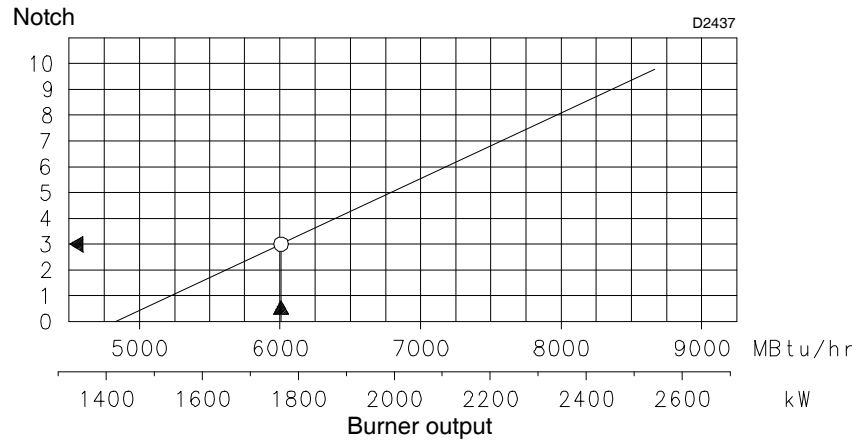
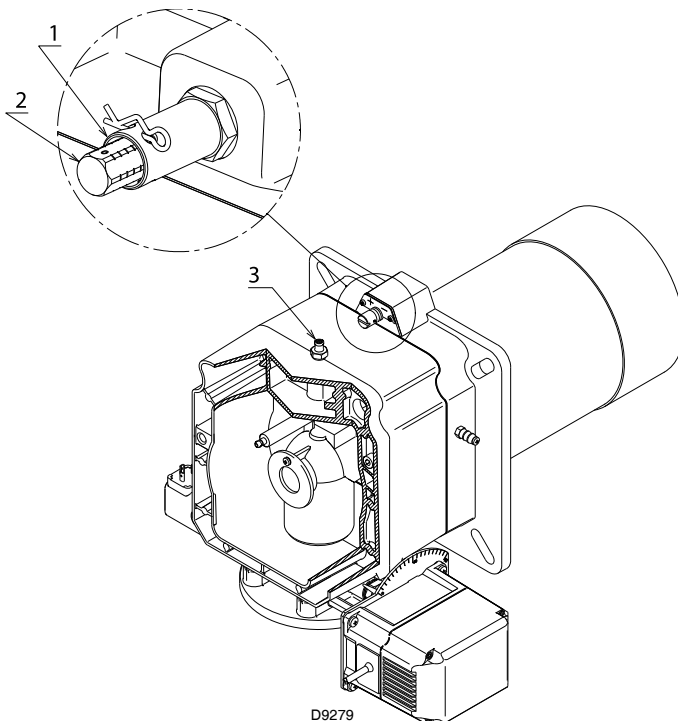

Fig. 14
Fig. 15
In the diagram of Fig. 14, find the notch at which to adjust both air and central gas/air.
Rotate the screw 2) (Fig. 15) until the notch you have found corresponds with the front surface 1) of the flange.
To facilitate adjustment, loosen the screw 6) (Fig. 15), adjust and then lock.
The diagram of Fig. 14 shows that the adjustments for this potential is external air R1 = notch 3.
- Ring nut 2) (Fig. 15) adjusted as in the diagram of Fig. 14
- Ring nut 2)(Fig. 15) adjusted as in the diagram of Fig. 14